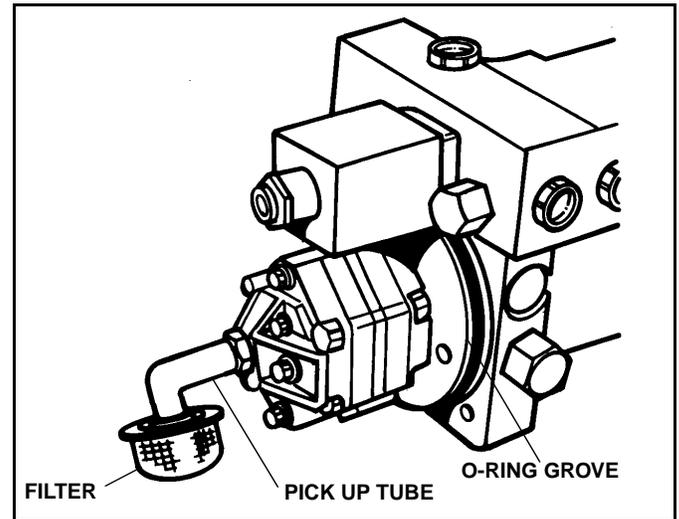

Figure 2-5
- Visually check that the pickup tube and filter face down (See Figure 2-5) if not, rotate the pickup tube.